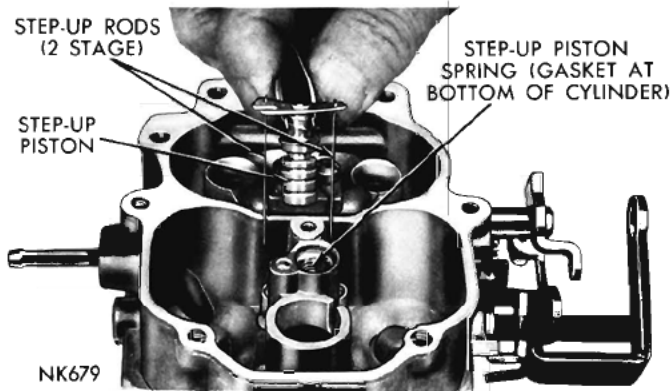

Fig. 3—Removing or Installing Step-Up Piston
(9) Remove the fuel inlet needle valve, seat and gasket from the main body.
(10) Lift out the float fulcrum pin retainer, then lift out the floats and fulcrum pin.
(11) Remove the step-up piston retaining screw, and slide step-up piston and rods out of well, as shown in (Fig. 3). Now, lift out the step-up piston spring. Remove the step-up piston gasket from the bottom of the well.
(12) Remove the main metering jets, as shown in